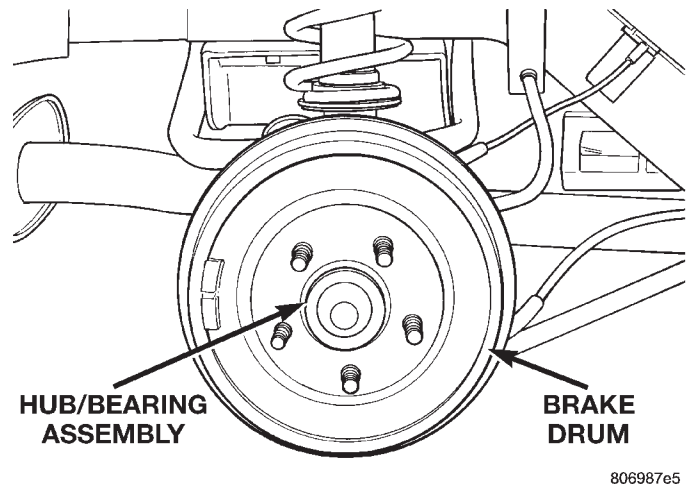

Fig. 58 Brake Drum And Hub And Bearing Assembly
(3) Remove the rear brake drum from the rear hub and bearing assembly (Fig. 58).